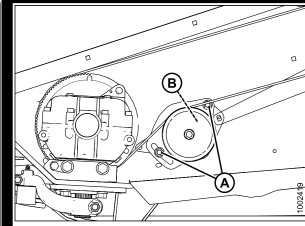

Figure 7.117
2. Loosen the two bolts (A) on drive belt idler bracket (see figure 7.117 at right).
4. Tighten nuts (A) on idler mounting bracket.